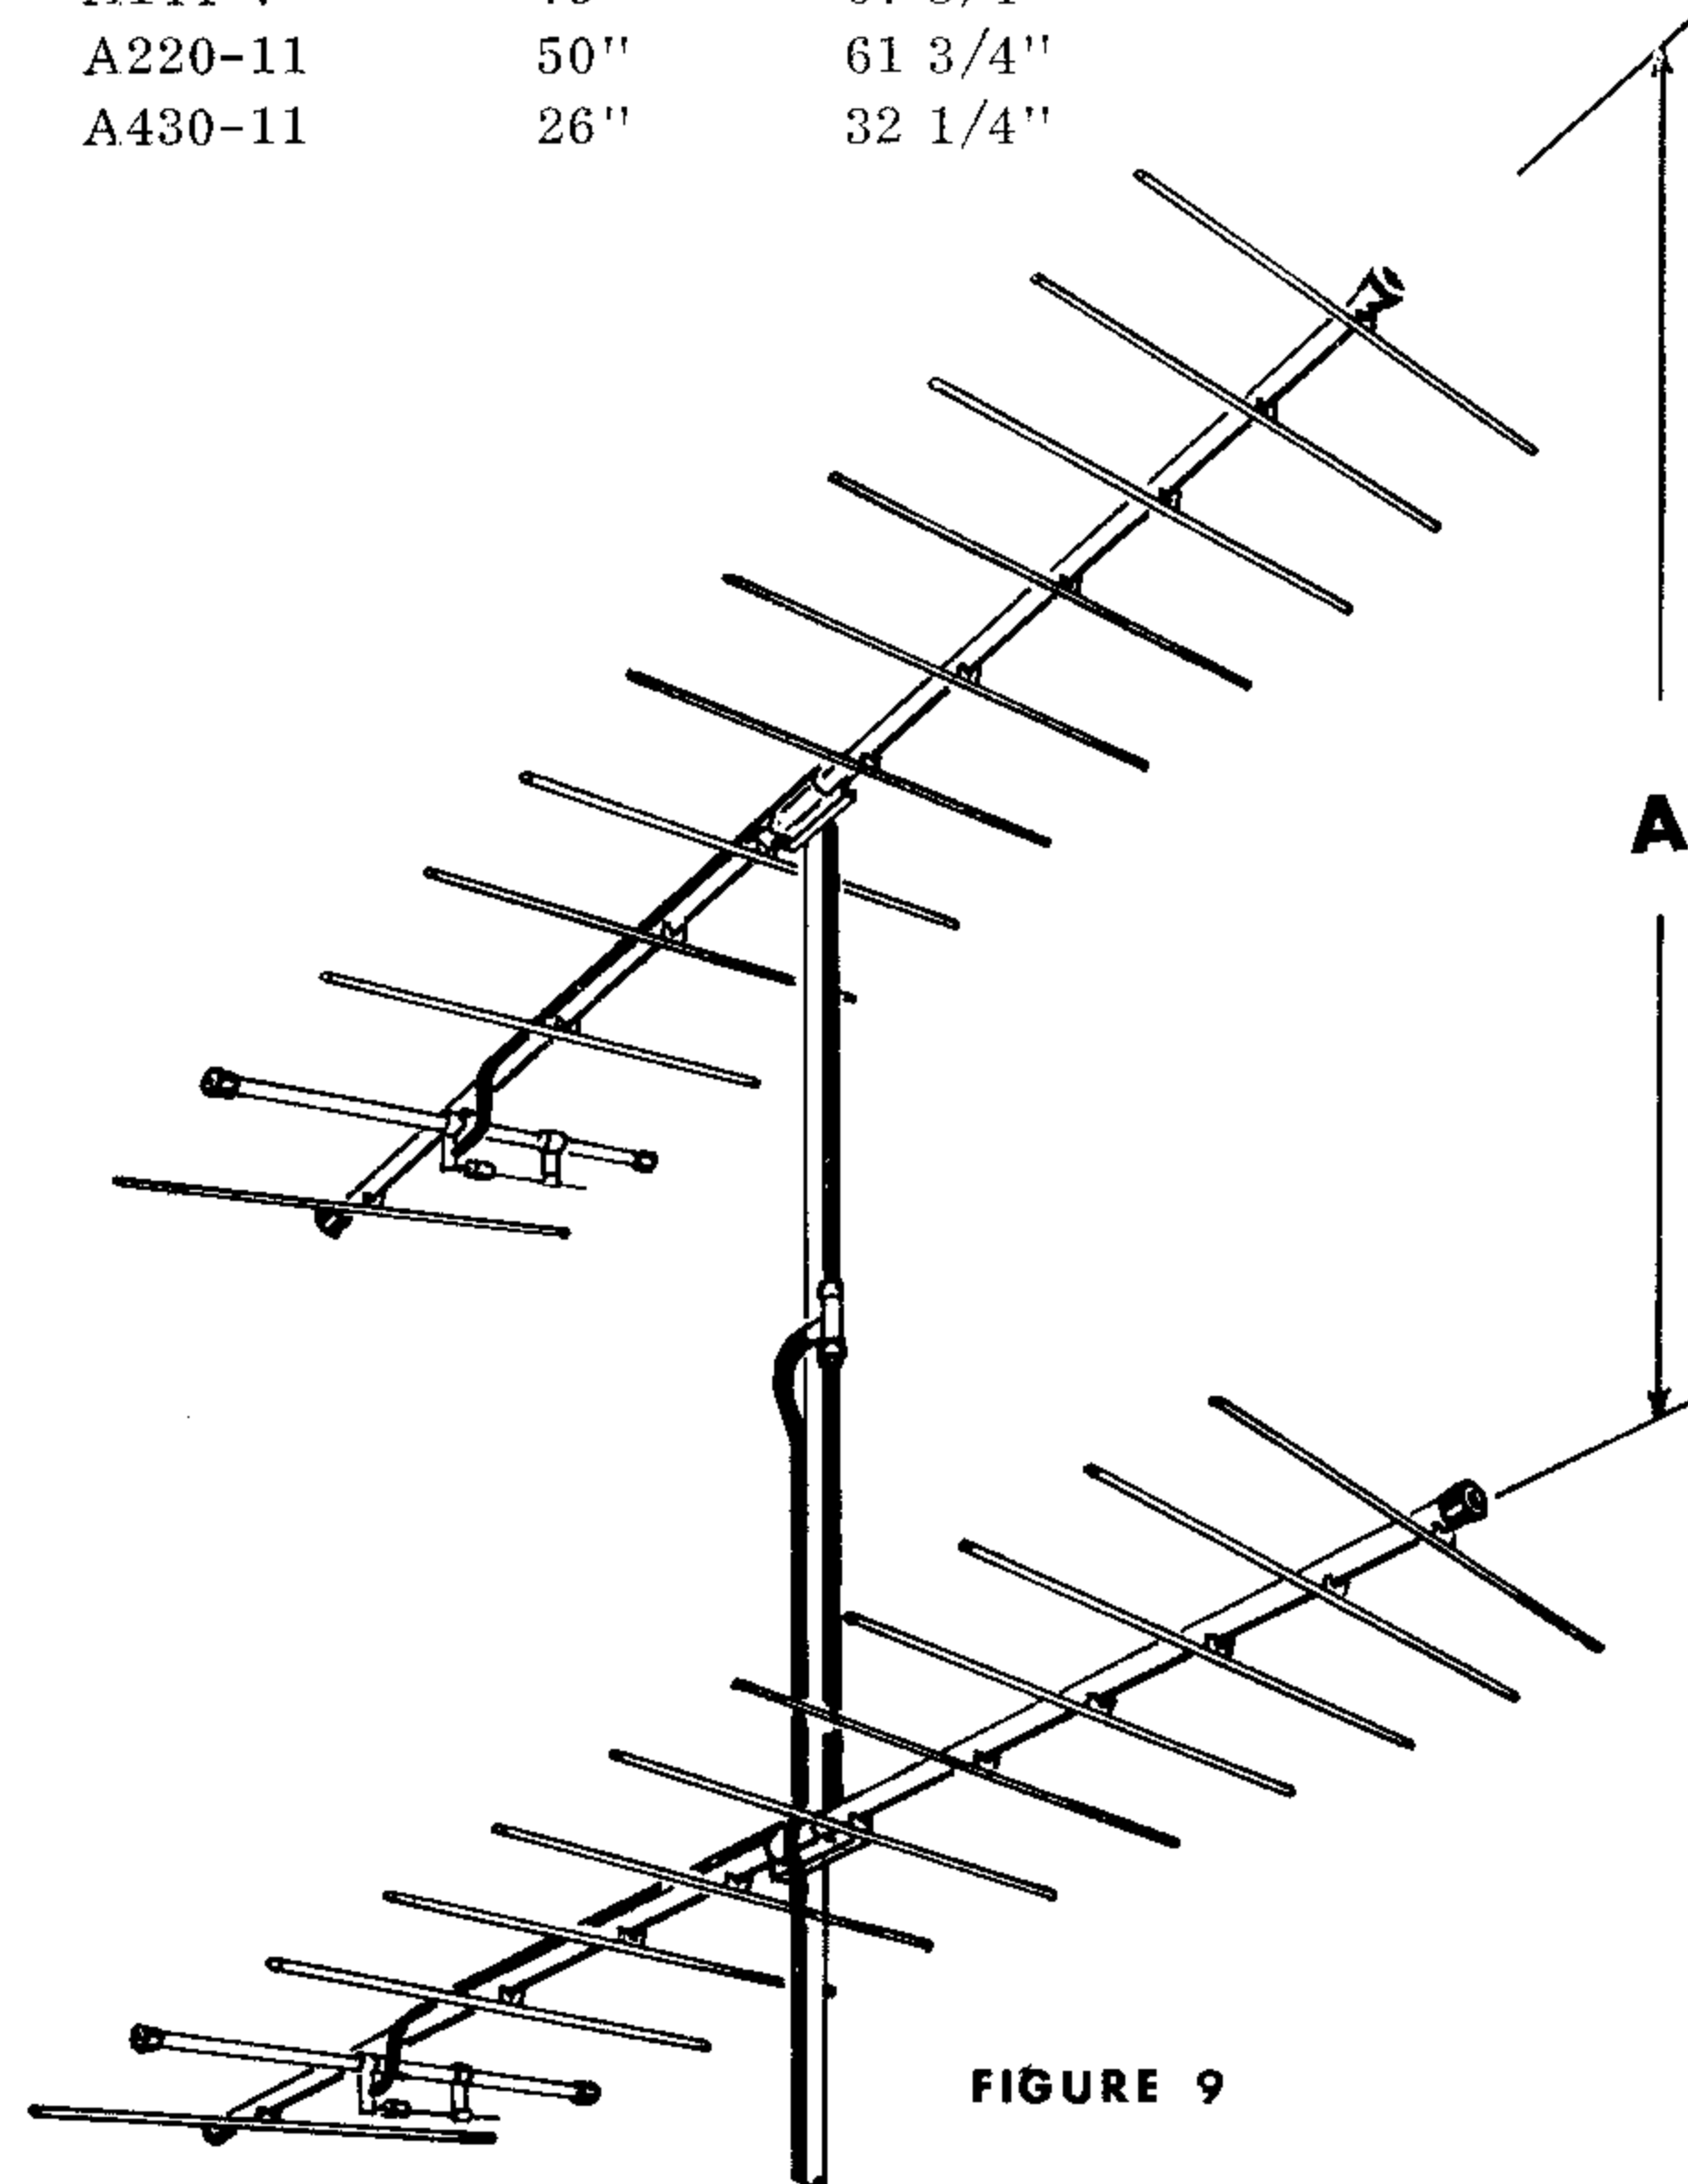

FIGURE 9
- (2.) Mount the two antennas on your mast with both Reddi Match units facing in the same direction, figure 9. Spacing between the antennas dimension A is given in Chart 1.
- (3.) Attach an end of the stacking harness to each Reddi Match. Run the cable along the boom and mast. Connect your 52 ohm feed cable to the center T fitting, figure 9. Any excess cable in the harness can be coiled equally on each side of the center insulator and taped to the mast.